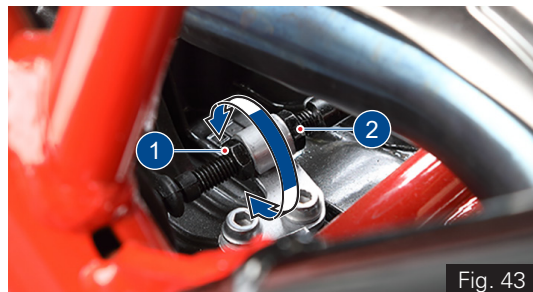

Fig. 43
- Lock the lock nut (3) again.
- Re-fix the dust cover (2) and cable clamp (1).
- Loosen the lock nut (5) at the bottom end of the clutch cable (ref. Fig. 43).
- Turn the adjuster in (6) 'in' or 'out' until the specified play is obtained and then tighten the lock nut and check the adjustment once again (ref. Fig. 43).